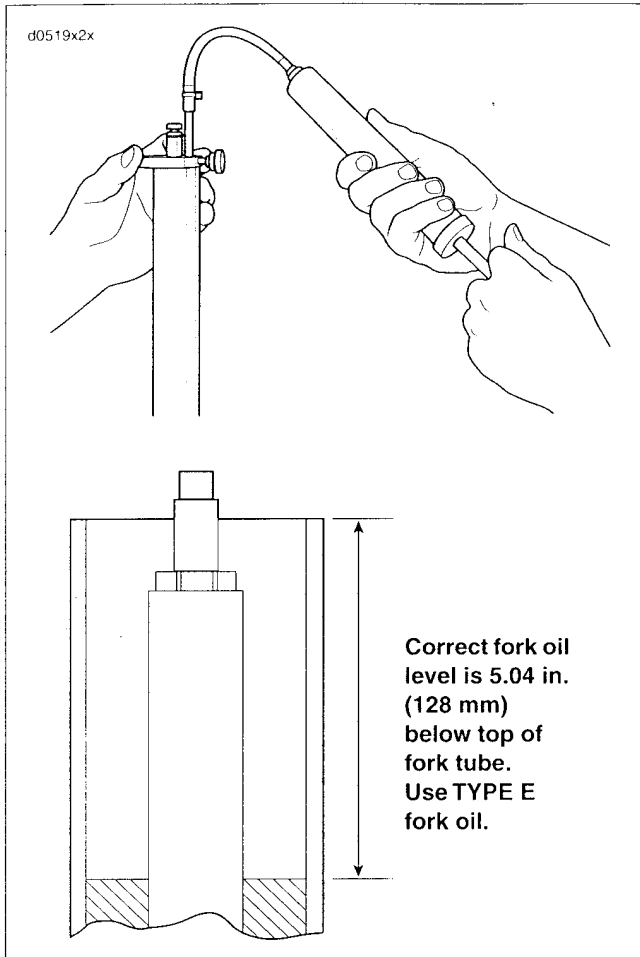

Figure 2-98. Checking Oil Height
16. See Figure 2-98. Using the PRO-LEVEL OIL GAUGE (Part No. HD-59000-A) adjust the oil level to 5.04 in. (128 mm).